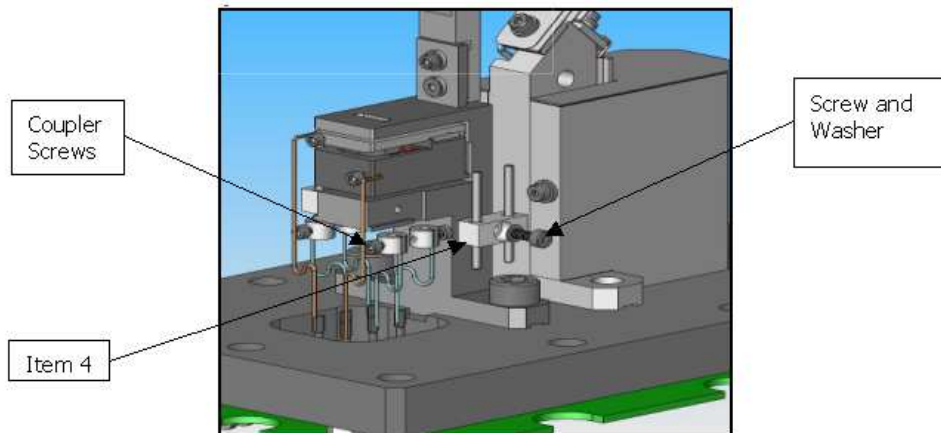

Figure 5: Coupler Screws
11. On a clean work surface, remove the defective filament(s) (item 4) from the spectrometer by loosening the two coupler screws. Then loosen the M2 screw and washer and remove the defective filament (Figure 5: Coupler Screws).